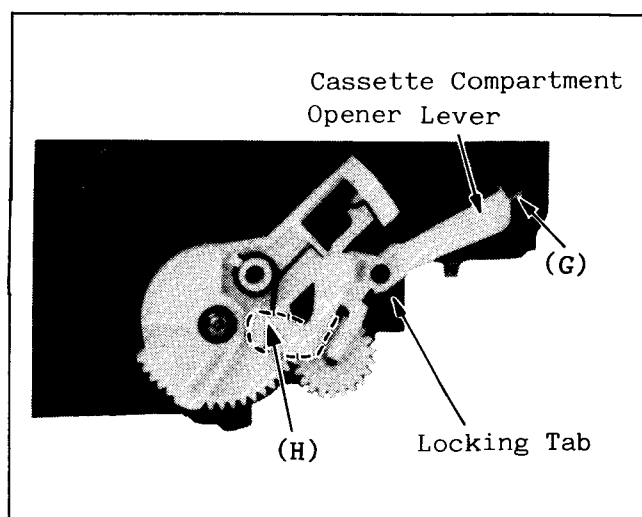

Fig. M35-10 Adjustment of Cassette Up Gears-(10)
3. Install the cassette compartment opener Lever as shown in Fig. M35-10. Ensure a portion of opener lever (G) slides into the opening beside Cassette door. Snap Cassette Compartment opener lever into place over its pin. Pull down on (H) to ensure Cassette door opens.